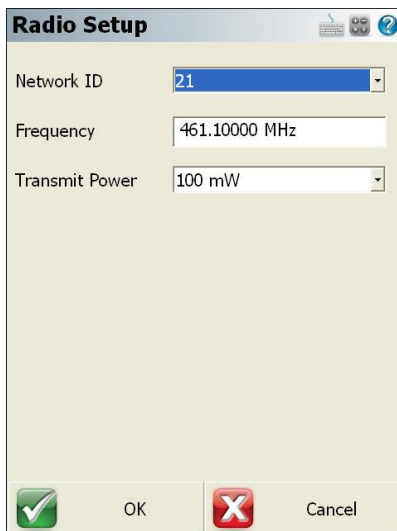

Figure 41: Radio Setup
7. On the **Radio Setup** dialog (refer to Figure 41), set the network ID (the Base and Rover radio network ID's must match), type a frequency in the **Frequency** text box (between 403.000 and 473.000MHz in 0.025MHz steps with 25KHz channel spacing or 0.0125MHz steps with 12.5KHz channel spacing), and set the transmit power.